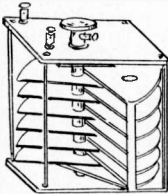
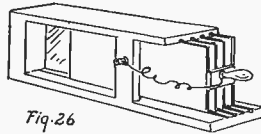

Fig. 27
Fig. 26
**VARIABLE CONDENSERS** are much more difficult to make and while any ingenious boy *can* make them, it is usually cheaper to purchase them ready made. There are two common forms, one known as the *sliding plate*, *Fig. 26*, the other as the *rotary*, *Fig. 27*. The former consists of a number of metal plates, which slide back and forth in a frame, case or box provided with grooves and